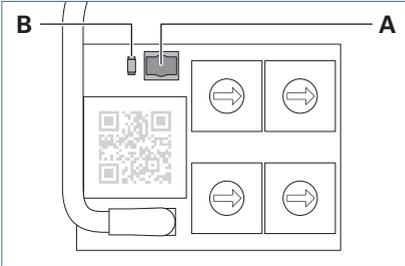

Fig. 13: Key and LED.
- ▶ Press the key **A** and keep it depressed for 10 seconds, see Fig. 13.